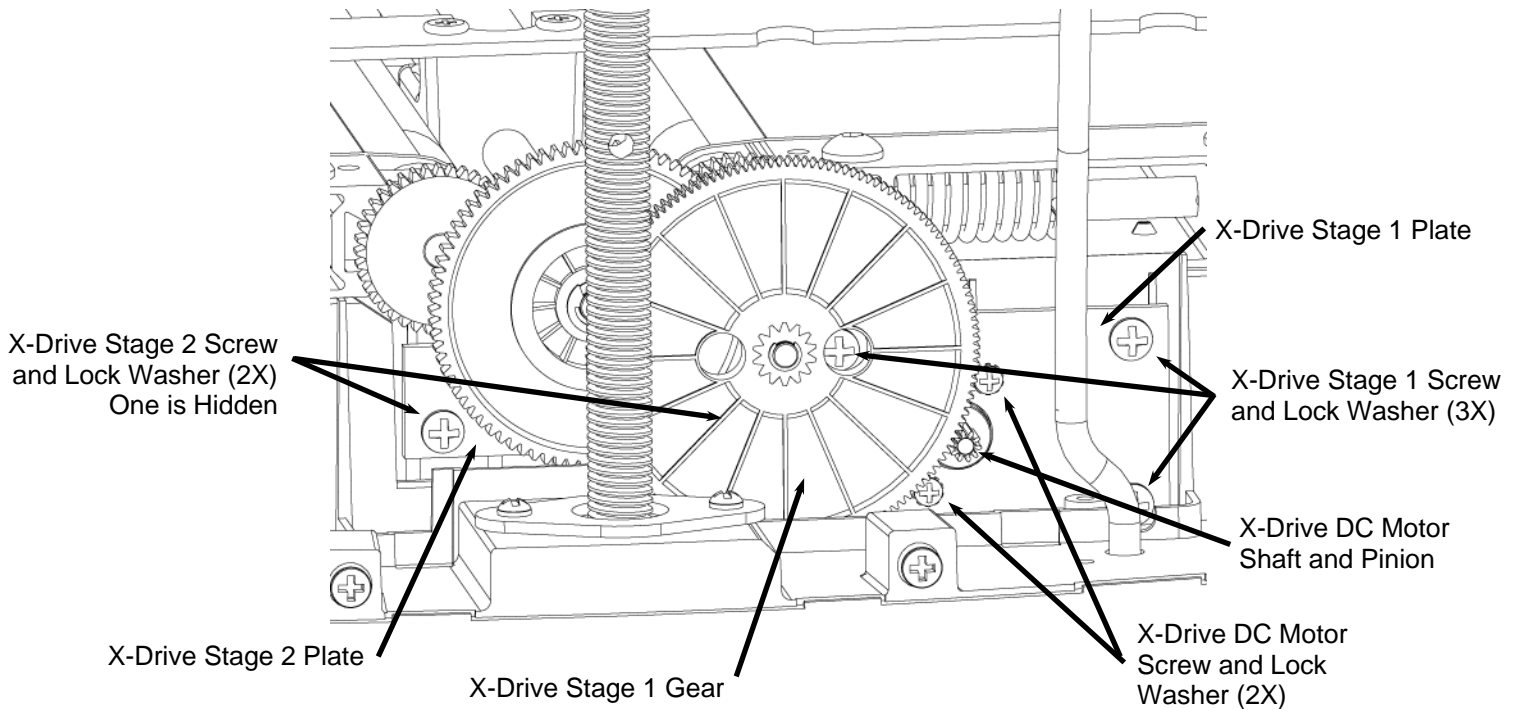

FIGURE 4: VIEW OF THE X-DRIVE GEAR TRAIN
5. **Remove the screws holding the X-Drive DC motor pack.** Use the #2 Philips head screw-driver to remove the two screws (and lock washers) holding the X-Drive DC motor pack as shown in Figure 4. Once these screws are removed the motor pack will drop down into the base. Reach up into the base from below to reposition it when reassembling.
6. **Remove the X-Drive Stage 1 plate and gear.** Use the #2 Philips head screw-driver to remove the three screws and lock washers securing the Stage 1 plate (see Figure 4). Pull the plate upward while rotating the top of the plate out toward the outside of the machine. The entire plate assembly will come loose.